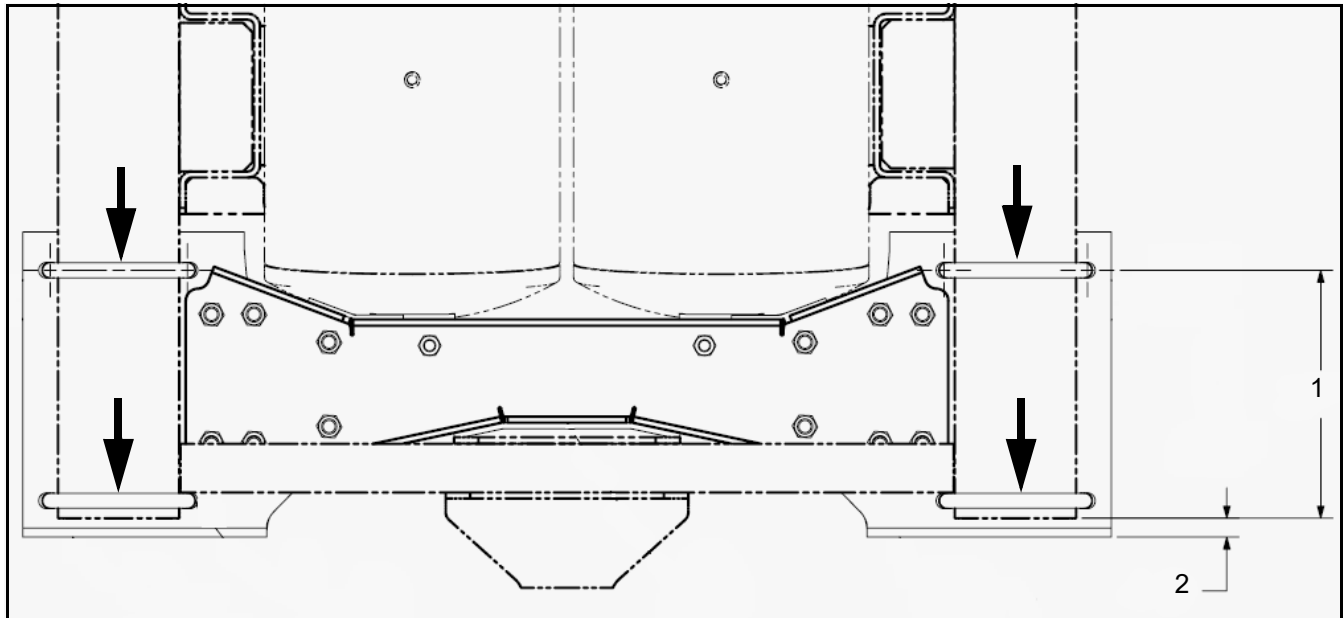

Figure 10. Drill hole measurements.
19. Orient the u-bolts, p/n 12-05-1375, around the tubing at the dimension shown in Figure 10. Using a marker, mark the four (4) locations to be drilled in the bulkhead panel.
21. Open and secure the baggage bay compartment #1 doors in the open position. Enter the baggage bay compartment #1 and locate the pilot holes. Using a 0.75 inch drill bit and a drill bit stop, drill a hole in the four (4) pilot hole locations.
Item	Figure 10 Description